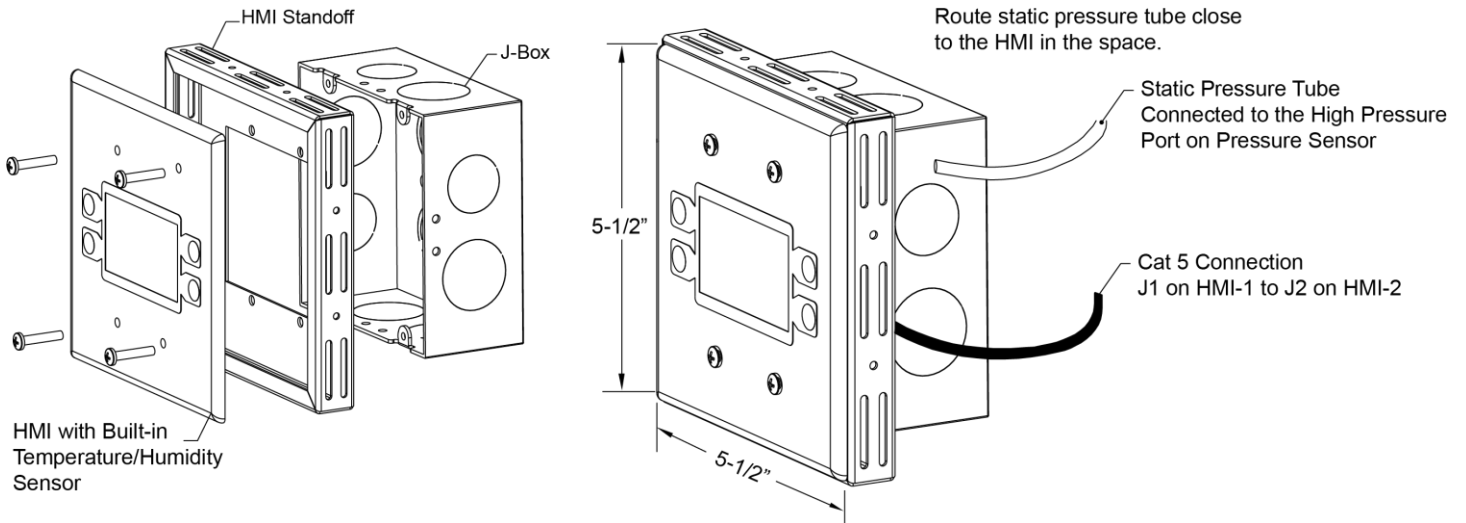

Figure 28. Space HMI Installation
Space HMI faceplate(s) (refer to **Figure 28**), remote room sensors (refer to **page 11** and **page 14** for optional sensors), and smart controls may be ordered and shipped separately. These components measure temperature and assist in controlling the unit. These components should be installed in a safe location, free of influence from external heat sources. Install sensors in areas indicative of the average room temperature, and away from heat-producing appliances. HMIs and remote room sensors can be installed directly to industry-standard junction boxes, either surface mounted or recessed mounted. HMIs have a built-in temperature/relative humidity (RH) sensor, which is typically used to help control the automatic function of the unit.